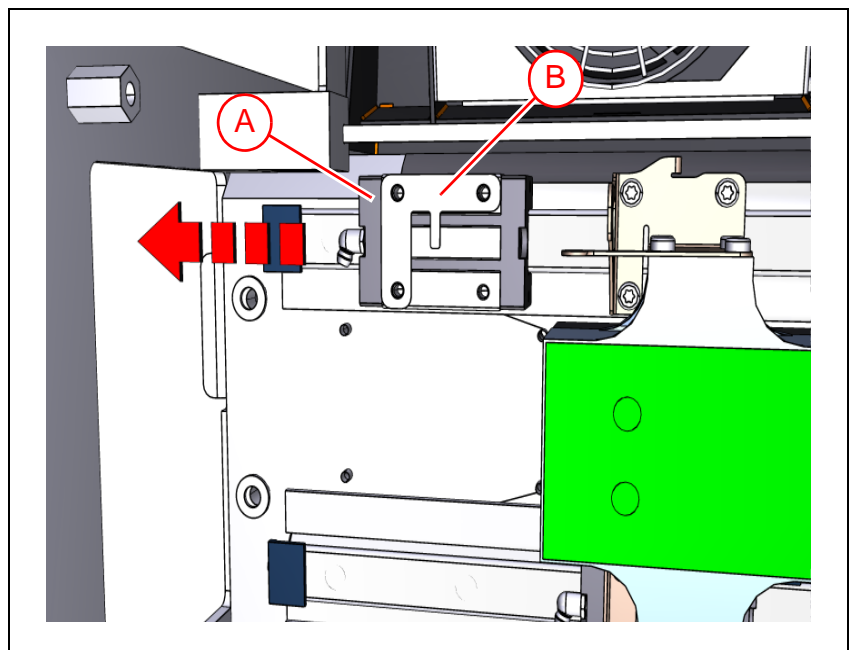

Figure 5-21. Removing linear guide block.
9. Remove the screws holding the linear guide block and slide the guide block ('A' in Figure 5-21) through the opening in the end stop plate.